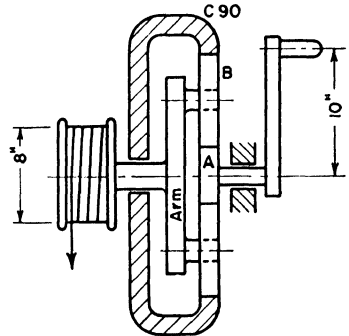

Fig. P 11.18
11.18. The mechanical advantage of the hoist shown in Fig. P 11.18 is to be approximately 25. Determine the numbers of teeth on gears *A* and *B*.